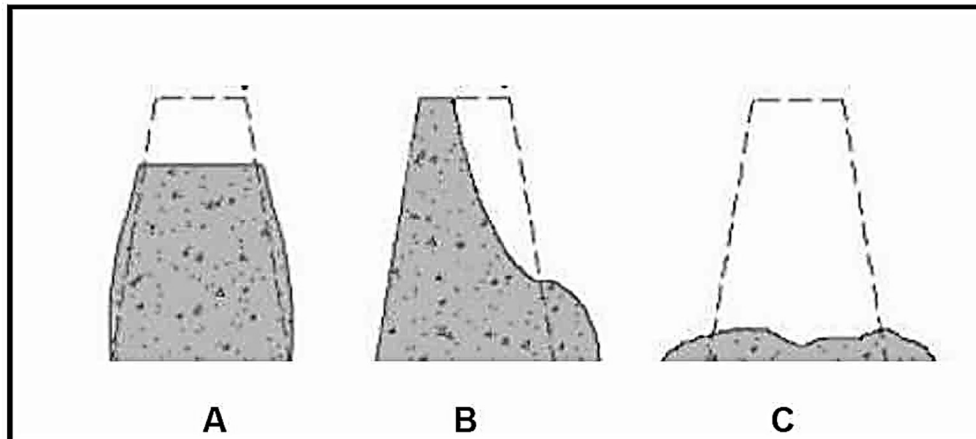

FIGURE 4.2
4.2 Answer the following questions regarding the test in FIGURE 4.2 below.